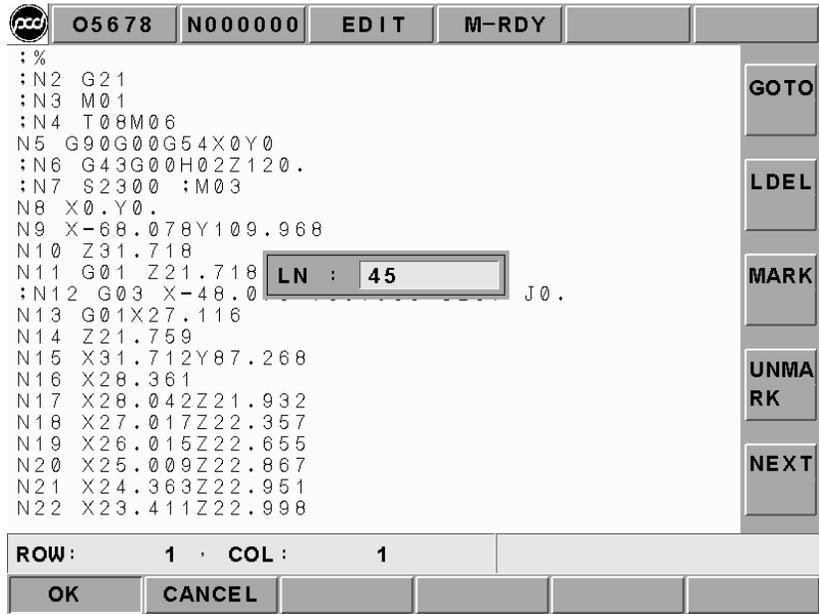

Figure 2.5-2 Screen of Row Position Entry Column
1. **GOTO**: pressing **【GOTO】** function button at the right side to key-in "ROW" number of the program in the dialog box. Pressing **【INPUT】** to move the cursor to the assigned row orientation (like Figure 2.5-2).